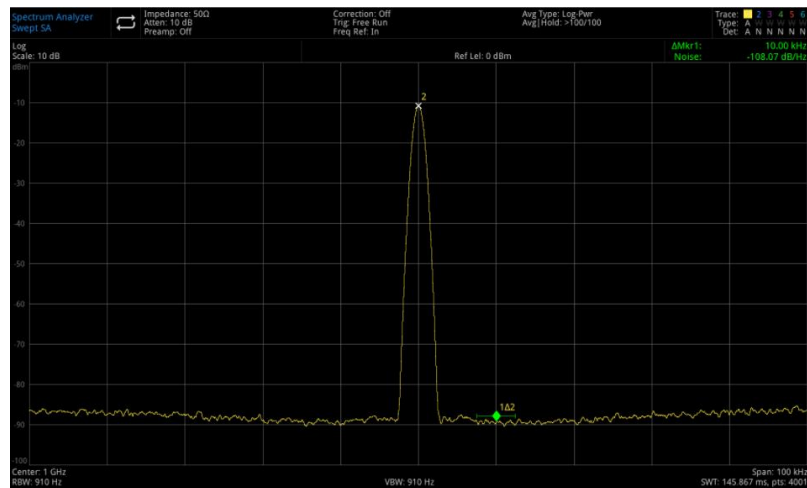

Figure 3-20 Phase Noise
7. Open Mark Function > Mark Noise as shown in Figure 3-20